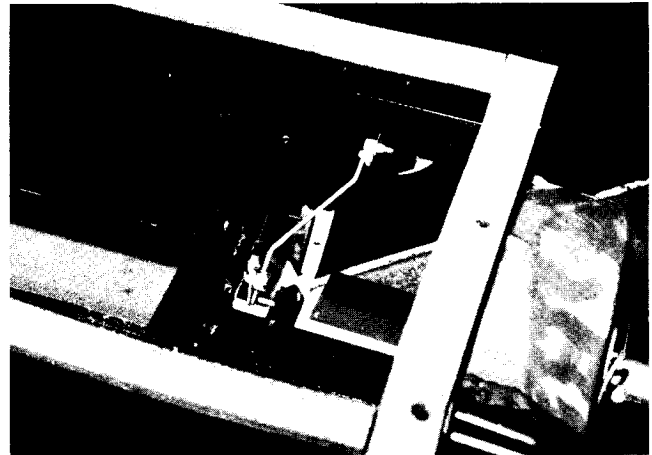

FIGURE 17
24. Make sure the auxiliary temperature is held in the closed position and install the connecting link rod (P/N 303-5056) with a slight preload tension on the actuator to make sure the door remains closed. Install retainer clip (P/N 3034832) over the white clip (Figure 17).